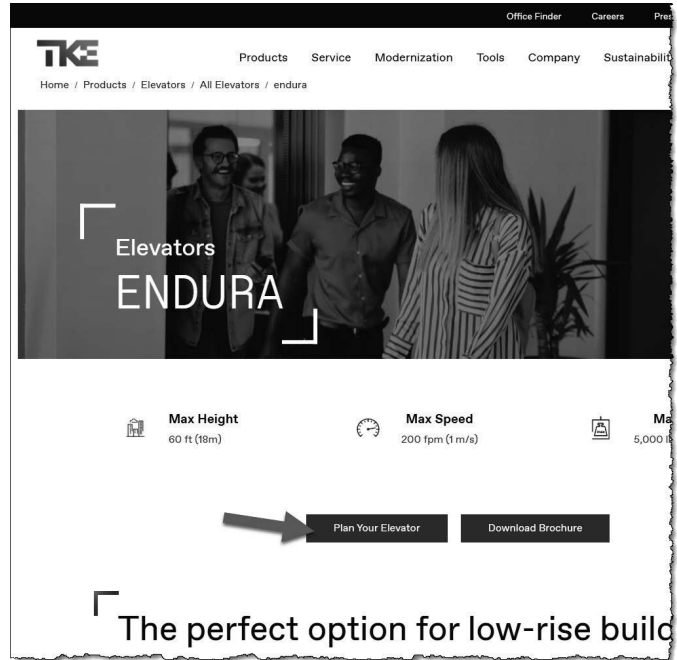

FIGURE 4-3.4 Elevator configuration wizard
6. Click the **Plan Your Elevator** button (Figure 4-3.4).